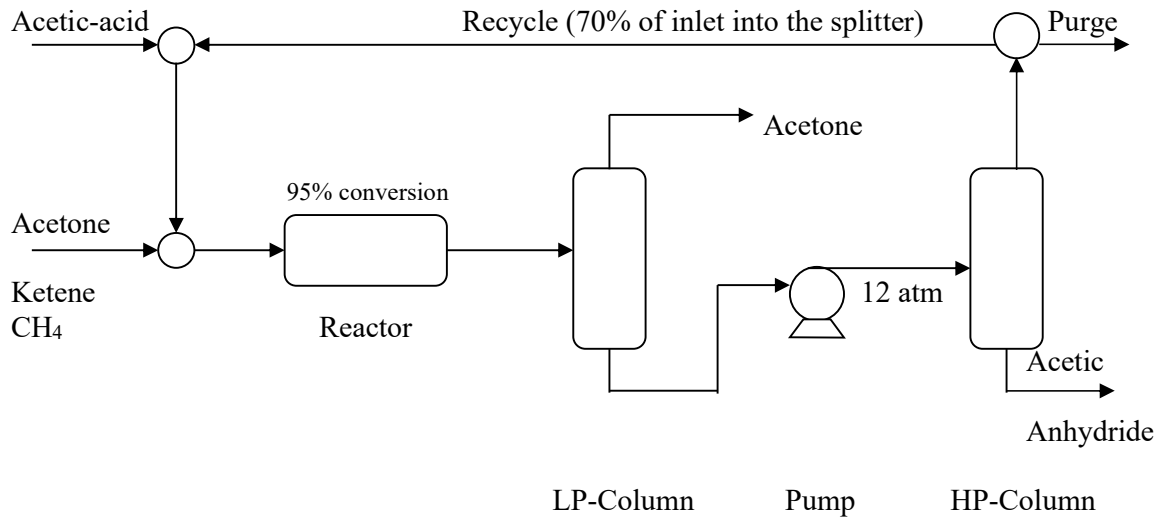

Figure 8: PFD of Acetic-Anhydride Production Process
- (b) In this section, we will use ASPEN PLUS to simulate the reaction and separation section of the acetic-anhydride plant as shown in Figure 8 below. The following reaction takes place in the reactor: